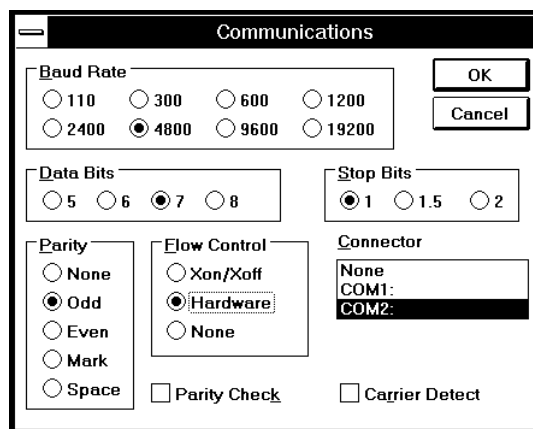

Figure 6-11. Communications Dialog Box
2. Pull down the Settings menu and choose Communications to display the Communications dialog box (Figure 6-11).